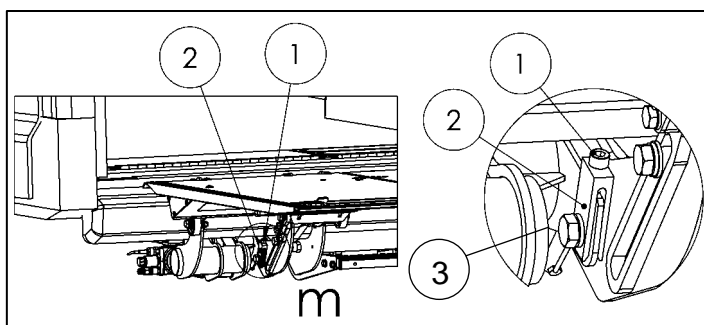

Fig. 70
- To align the platform parallel to the vehicle floor, adjust the lifting gear using the left-hand adjustment fork (adjustment screw accessible from above) (see Fig. 70).